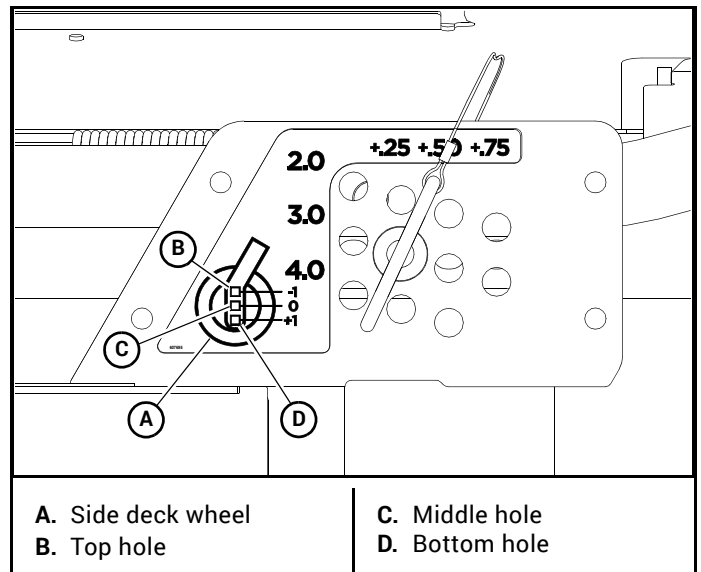

**Figure 3-15**
- Using the center deck lift switch, raise the center deck until the transport lever is engaged. Figure 3-15
- Move the pin to the desired cutting height in the center deck's height adjusting plate. Figure 3-15
- Using the side deck lift switch, raise the side decks to their highest position. Figure 3-15